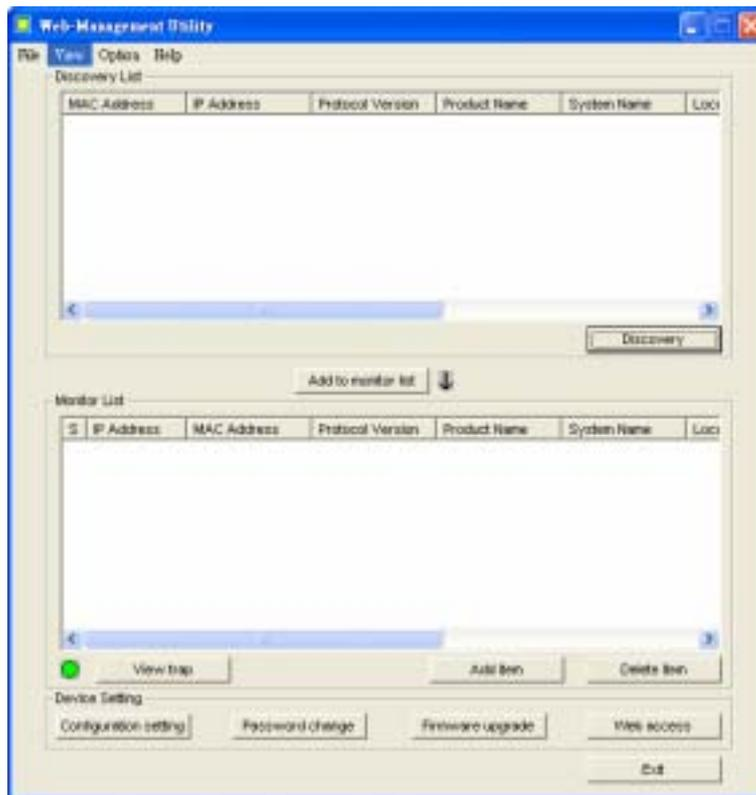

Figure 6. Web Management Utility
5. Upon completion, go to **Program Files** -> **web_management_utility** and execute the Web Management utility. (Figure 6.)